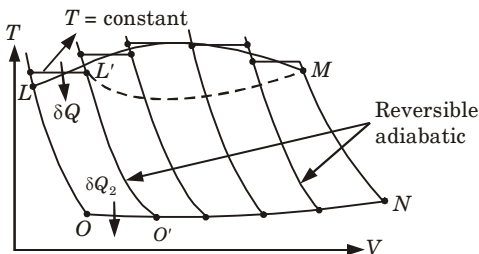

Fig. 2.17.1.
3. Let the cycle be divided into a number of elementary cycles as shown in Fig. 2.17.1.